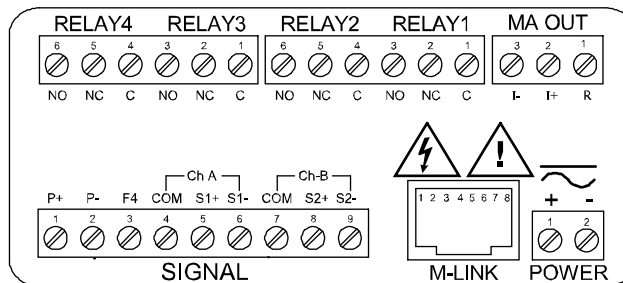

Figure 6. Connector Labeling for Fully Loaded PD6363
Isolated Transmitter Power Supply	Terminals I+ & R: 24 VDC ± 10%. May be used to power the 4-20 mA output or other devices. Refer to Figure 6 on page 12 and Figure 18 on page 15. All models rated @ 40 mA max.
Power connections are made to a two-terminal connector labeled POWER on Figure 6. The meter will operate regardless of DC polarity connection. The + and - symbols are only a suggested wiring convention.
Signal connections are made to a nine-terminal connector labeled SIGNAL on Figure 6. The COM (common) terminals are the return for certain input signals. The two COM terminals connect to the same common return, and are not isolated.
Serial communications connection is made to an RJ45 connector labeled M-LINK on Figure 6. For interfacing to the PROVU®, use the PDA1232 for RS-232 or the PDA1485 for RS-485. The same port is used for interfacing with all expansion modules (e.g. external relays, additional 4-20 mA outputs, digital I/O).
Relay connections are made to two six-terminal connectors labeled RELAY1 – RELAY4 on Figure 6. Each relay's C terminal is common only to the normally open (NO) and normally closed (NC) contacts of the corresponding relay. The relays' C terminals should not be confused with the COM (common) terminal of the INPUT SIGNAL connector.